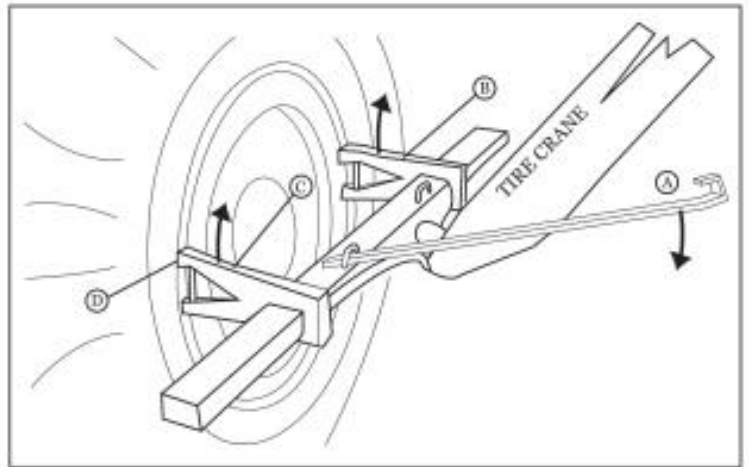

Figure 1
- 2) When the #92000 bar is attached to the end of the tire crane, it will swing down with the feet pointing to the ground. As you lift the bar with the crane, insert a lever bar (A) or a tool (KenTool#T23A) as per Figure 1. As you raise the tire crane, push down on the lever (A) to align the bar and the feet from 9 o'clock to 3 o'clock. Once you have the alignment, release the lever bar (A) and allow the feet to point towards the ground.
- 3) Adjust the push feet (B) and (C) to fit the diameter of the rim. Feet should rest against the bead seat band, item (D).